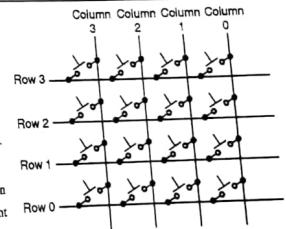

Fig. 9.2.3 : Matrix keyboard
- Fig. 9.2.3 shows 16 keys arranged in 4 rows and 4 columns. No connections is there, when the keys are open.